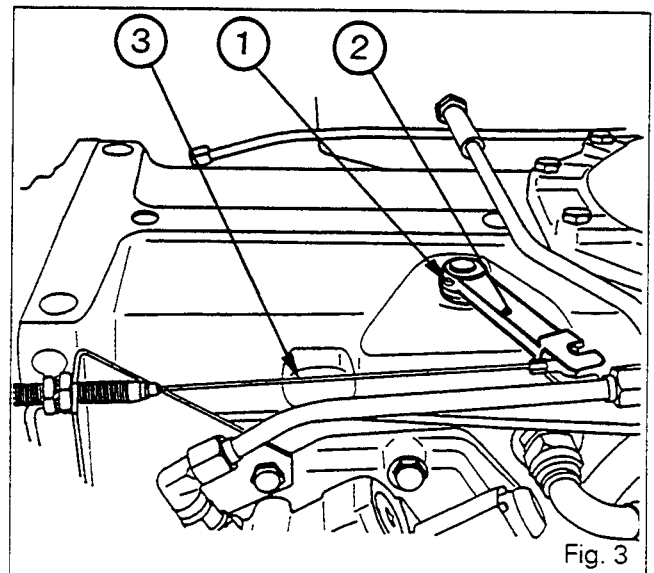

Fig. 3
15. Disconnect the cable (3). Take out the split pin (1) and remove the control arm (2) (Fig. 3).
16. Remove the seal (19).
17. Release the spring (17) using pliers.
18. Undo the nut to release the actuator lever (13) of the cam (14).
19. Remove the circlip (15).
20. Remove the cam (14) with the finger (16).
21. Remove the screws (25).